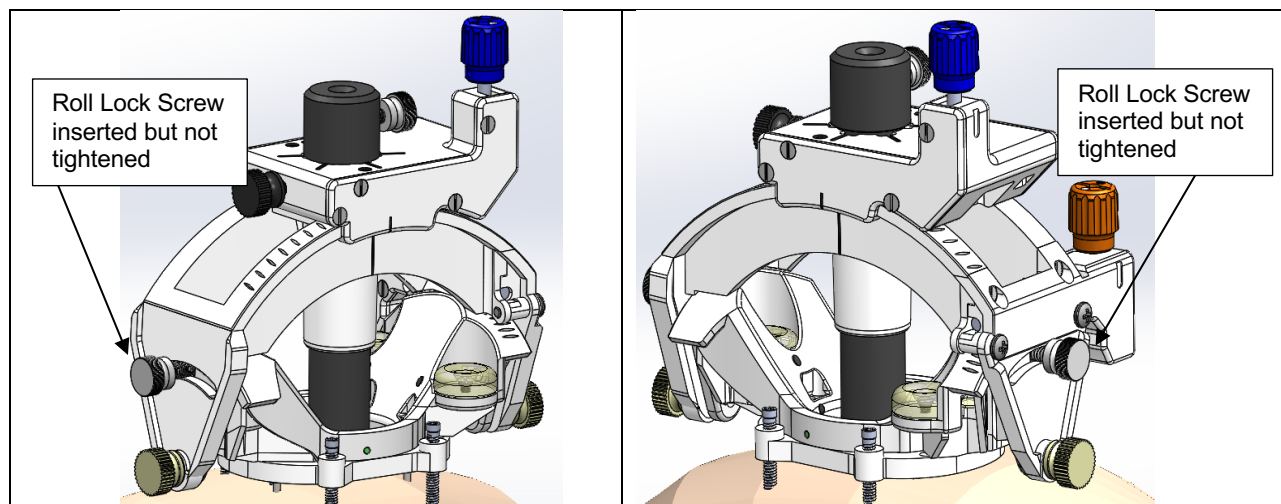

Figure 9: Roll lock screws inserted into SMARTFrame but not tightened
4. Remove the two Roll Lock Screws w/ washer from the SMARTFrame Array package to pre-mount in SMARTFrame Array. Screw in partially to the appropriate location on the SMARTFrame Array. **See Figure 9.** Ensure the Roll Lock Screws with washer are not tight. These screws will be tightened later in the procedure.